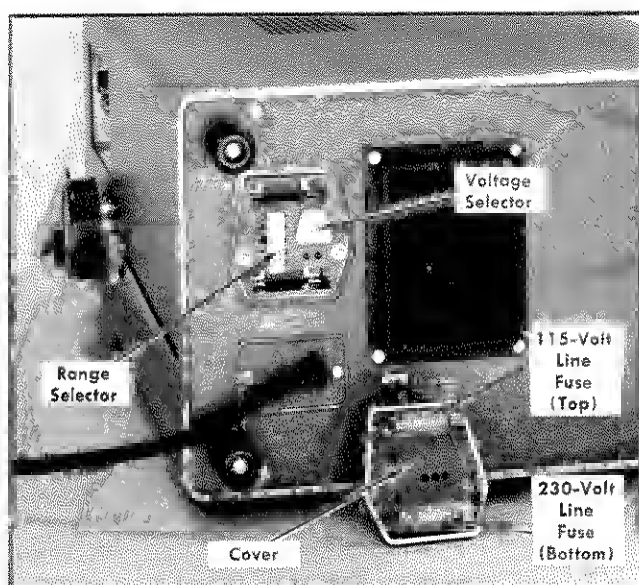

Fig. 2-3. Line Voltage Selector assembly on the rear panel (shown with cover removed).
3. To convert from 115-volts nominal to 230-volts nominal line voltage, pull out the Voltage Selector switch bar (see Fig. 2-3); turn it around 180° and plug it back into the remaining holes. Change the line-cord power plug to match the power-source receptacle or use a 115- to 230-volt adapter.
4. To change regulating ranges, pull out the Range Selector switch bar (see Fig. 2-3); slide it to the desired position and plug it back in. Select a range which is centered about the average line voltage to which the instrument is to be connected (see Table 2-1).